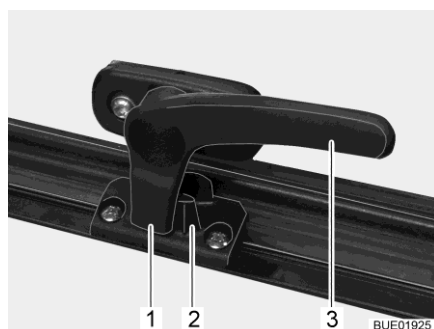

Fig. 19 Catch lever in "closed" position
- Turn the catch lever (Fig. 19,3) a quarter turn towards the centre of the window.
- Turn the catch lever (Fig. 19,3) a quarter turn towards the window frame. The locking catch (Fig. 19,1) is located on the inside of the window catch (Fig. 19,2).
- "Firmly closed" (Fig. 19).